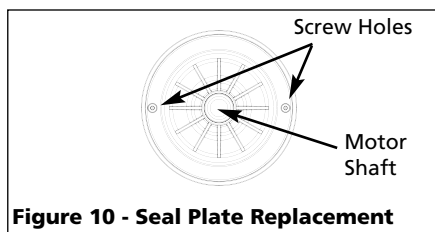

Figure 10 - Seal Plate Replacement
- Carefully slip seal plate over shaft. Do not disturb seal position in seal plate. The seal plate must be orientated during assembly so the two screw holes are on a horizontal line across the motor shaft and the (4) locating pins on the back of the seal plate line up with the tabs on the motor housing (Figure 10). This placement should be done to ensure proper draining and priming.